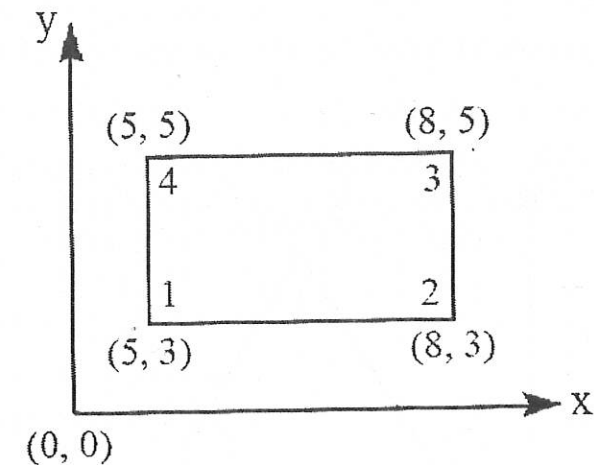

Figure. 4
13. (a) For a four noded rectangular element show in Figure 4, determine the temperature at the point (7, 4). The nodal values of the temperature are  $T_1 = 63^\circ\text{C}$ ,  $T_2 = 81^\circ\text{C}$ ,  $T_3 = 84^\circ\text{C}$  and  $T_4 = 69^\circ\text{C}$ .